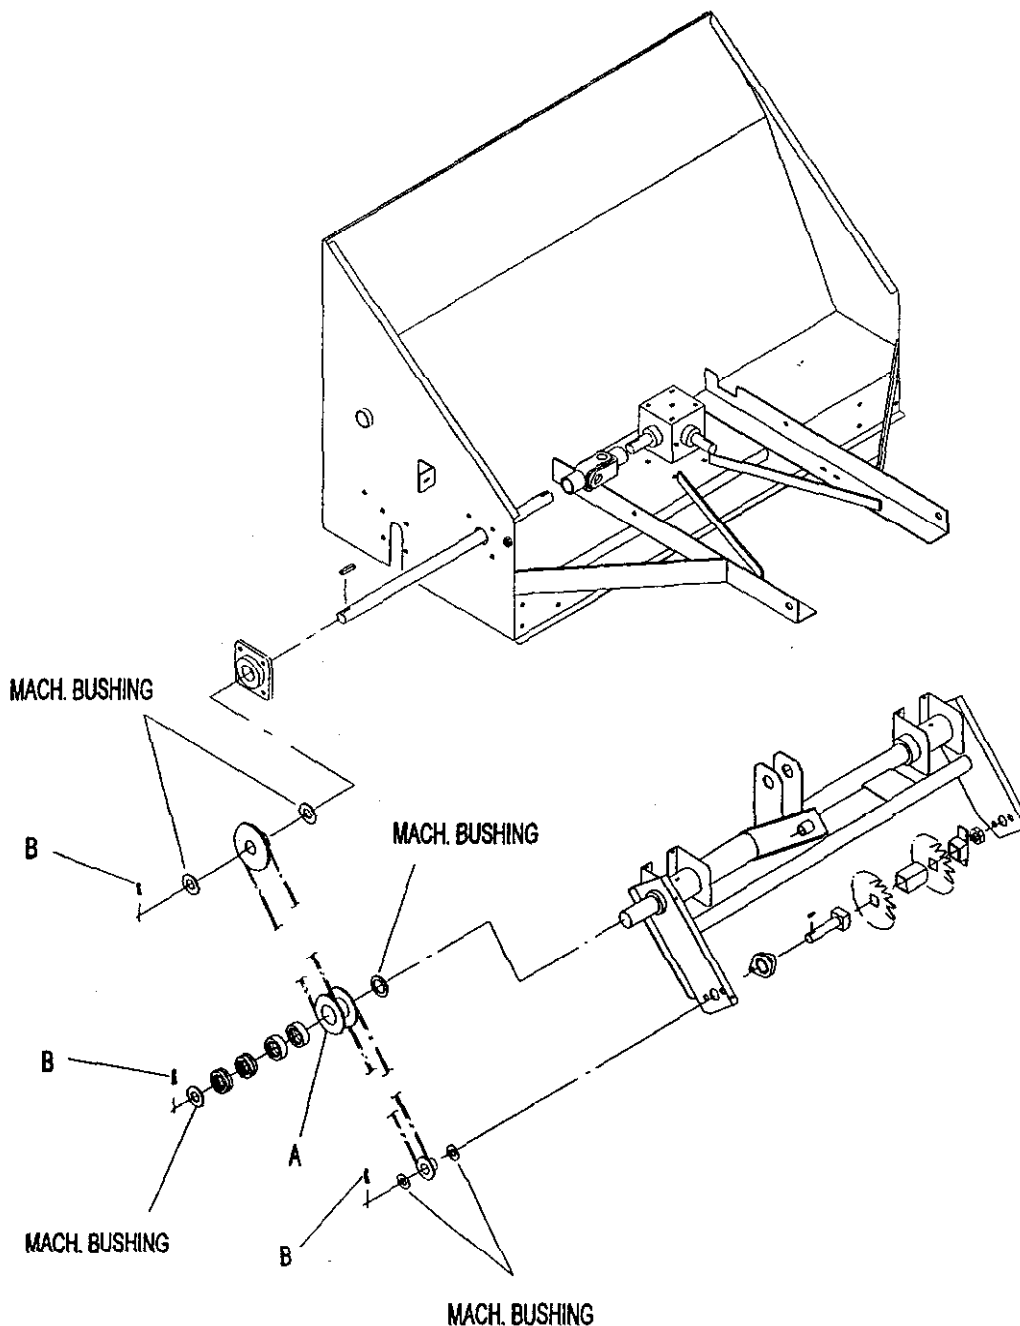

Figure 4
5. (FIG. 4) Assemble the gear train of the thatcher. Note the relative positions of the gears and chains. Item A (sprocket) has a grease zerk which must go to the outside. After the gears are placed on the shafts with the keys, a 3/16" hole must be drilled in the shafts to accommodate cotter pins (item B). Space machinery bushings out to the hole to keep the sprocket from moving outward.